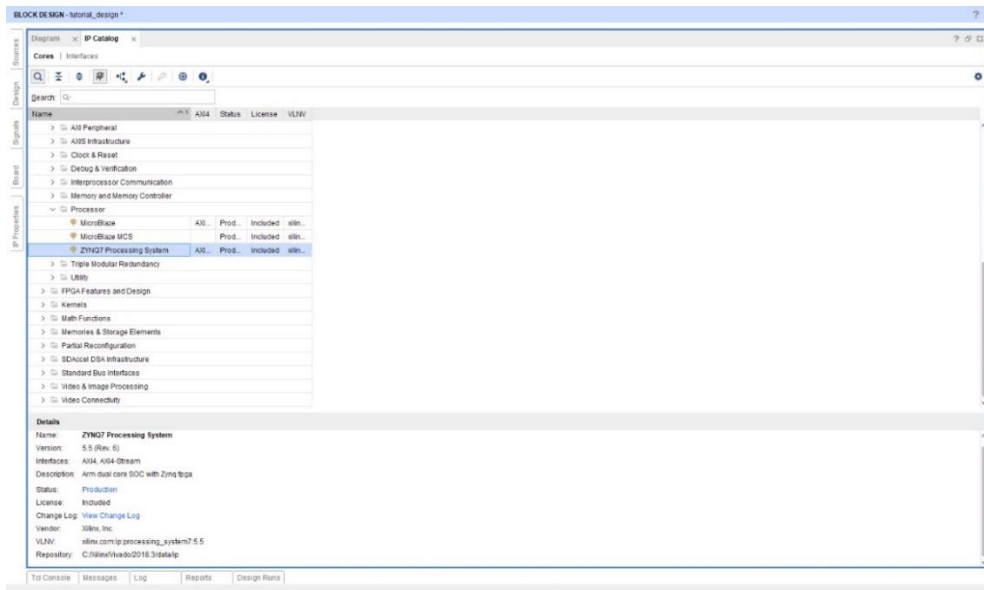

Figure 8
3. Under **Vivado Repository** → **Embedded Processing** → **Processor**, double click **ZYNQ7 Processing System** to add it to our design (Figure 8)